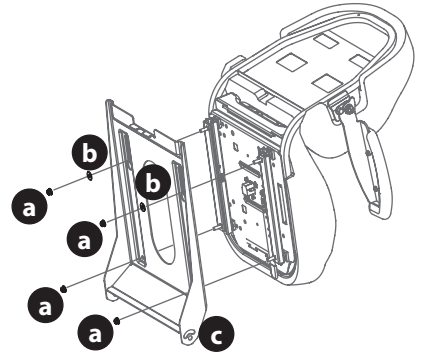

Figure 4
- For a Lever Adjust seat: use flange lock nuts (a) and flat washers (b) (Figure 4).